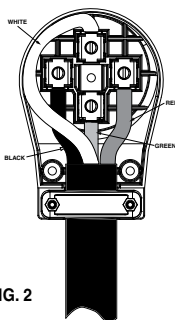

FIG. 2
4. Back set screws out of terminals to allow an opening large enough to insert copper wire. As each wire is placed into position, tighten the set screw to secure the wire in place as shown in **Fig. 2**. Make sure that all individual copper strands of each wire are completely inside of each terminal (twist strands together if needed). Start with the white wire first.
5. Make sure wires do not interfere with screw holes or other mating surfaces and then replace the Cover and secure with the three screws provided (White, neutral, wire will need to be tucked in as shown in **Fig. 2**).